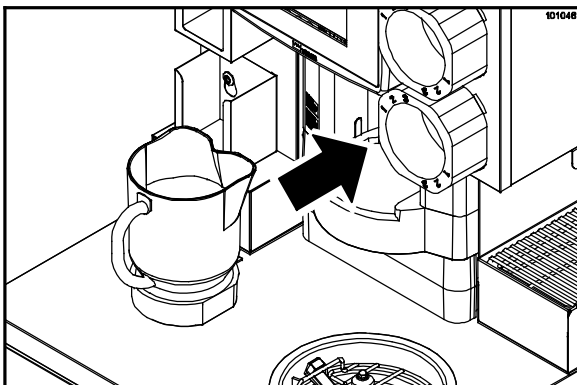

Figure 114
64. Place a blender pitcher in the dispensing area. (See Figure 114.)